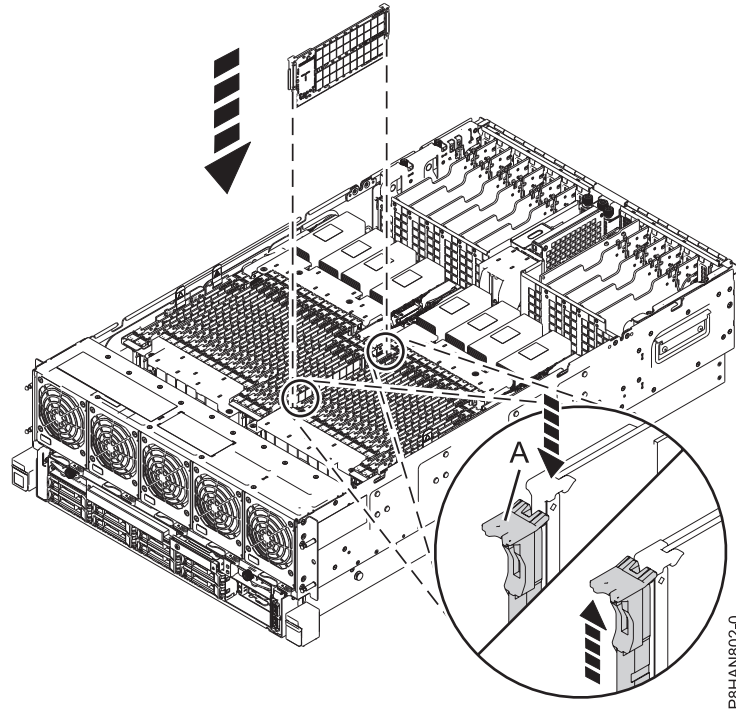

Figure 6. Installing or replacing memory in the 8408-44E or 8408-E8E system
6. Press the memory firmly into the slot until the locking tab (A) locks in place. See Figure 6 on page 9.